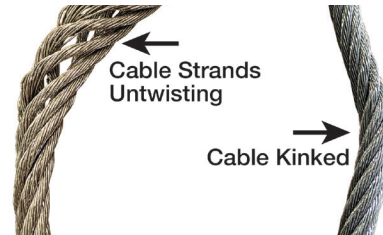

Figure 8-1: Cable Strands Untwisting and Cable Kinked
1. Inspect cable and cable anchors for damage including kinks, cable strands untwisting (see Figure 8-1), and broken wire strands. Replace the cable if the cable is kinked, untwisting, or more than three wire strands are broken. Do not use the lift until the cable is replaced. To replace the cable, refer to *Section 4.1 CABLE REPLACEMENT* of the material lift Service Manual. See *Section 9.1 SERVICE MANUAL* for QR code download link.